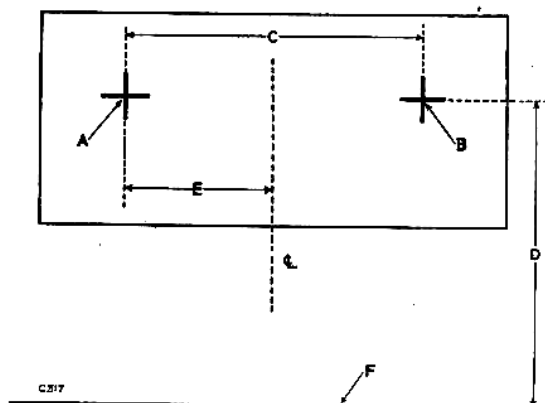

Fig. P-25—Headlamp beam setting board, 1954-58 models
1. Mark on a board the dimensions given in Fig. P-25 and position the vehicle, unladen, on level ground.